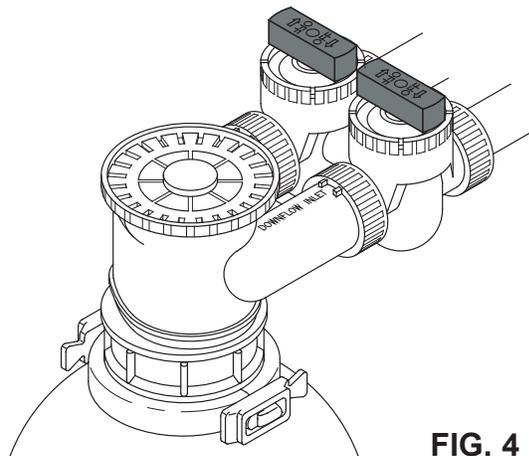

FIG. 4
- Place bypass valve(s) into **BYPASS** position. On a single valve, turn both handles perpendicular to water flow (See Fig. 4). On a 3 valve system, close the inlet and outlet valves, and open the bypass valve (See Fig. 3).